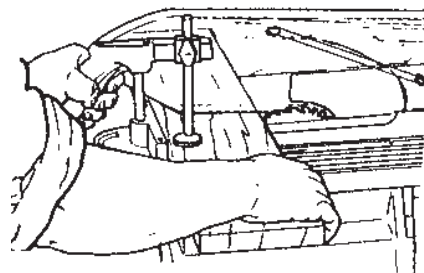

Figure C-1
4. Squeeze the safety grip and turn on the MARK 4 [Shorty]. Set to the correct speed, then guide the stock past the blade. Use your free hand to help keep the stock against the miter gauge face. See Figure C-1.